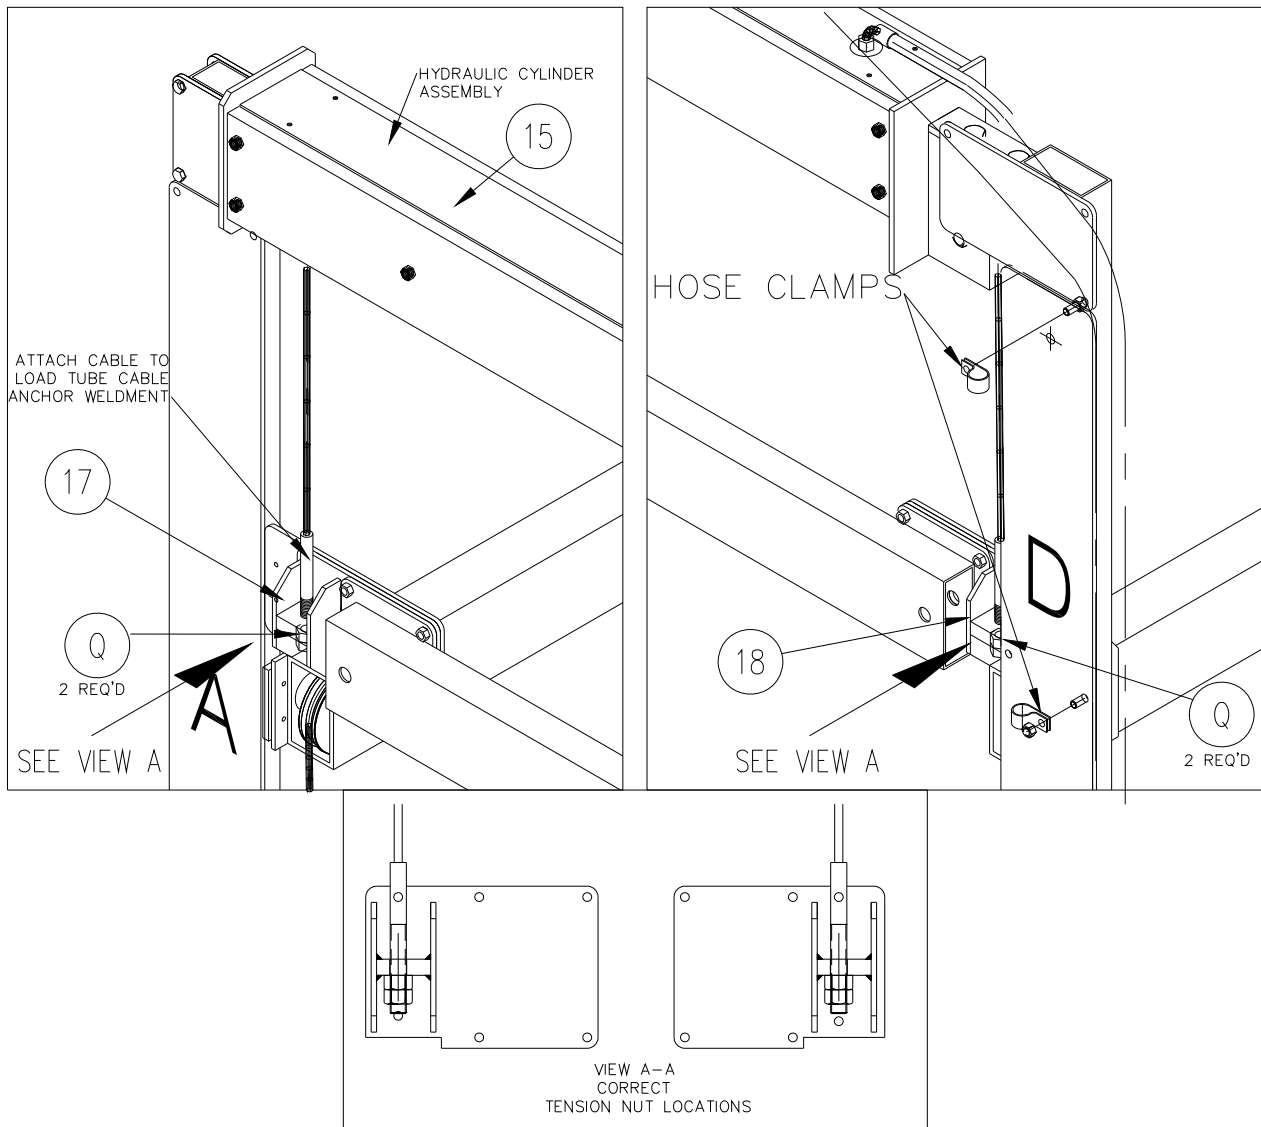

Figure 3-11
4. Using a 1-1/8" open-end wrench, tighten the cable studs on the cable. The following step numbers correspond to the step numbers shown in Figure 3-11.